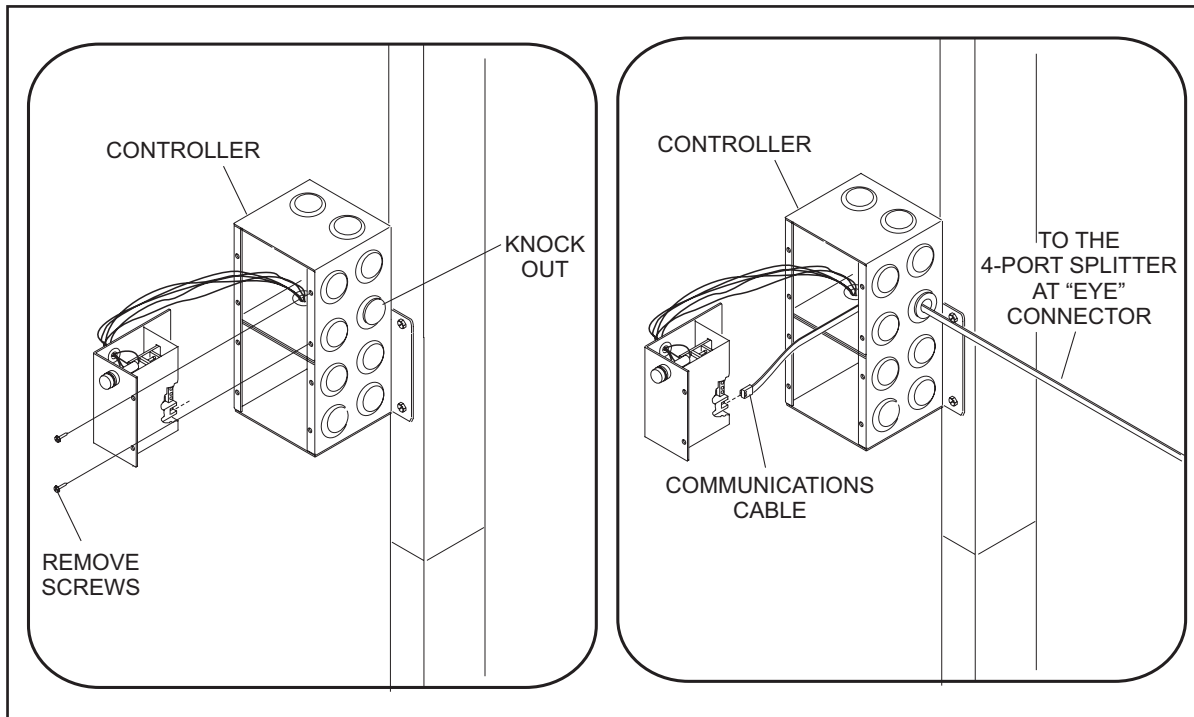

Figure 79
3. Connect the communication cable to the controller. Refer to *Figure 79*.
4. Connect the communication cable from the controller to the to the 4-port splitter at the “EYE” connector. Refer to *Figure 79*.
The projection screen controller is rated for 3.8 amps at 115 volts, 1.9 amps at 230 volts. One controller per screen. Refer to *Figures 79 & 80*.